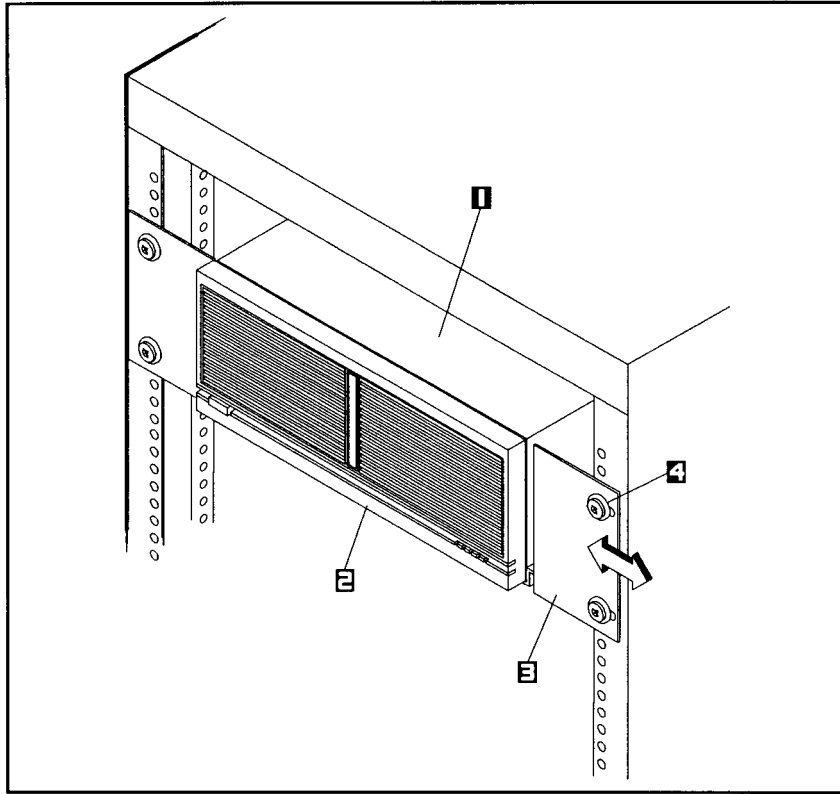

Figure 2-1. Installing the Disk Storage System in an HP 46299A Cabinet
2. Loosen the two screws securing each flange to the cabinet. See Figure 2-1.
5. Loosen the flange mounting screws and slide the flanges up against the disk storage system. The flanges fit into the groove directly behind the front panel. See Figure 2-1. If necessary, slide the disk storage system forward slightly until the flanges are aligned properly.